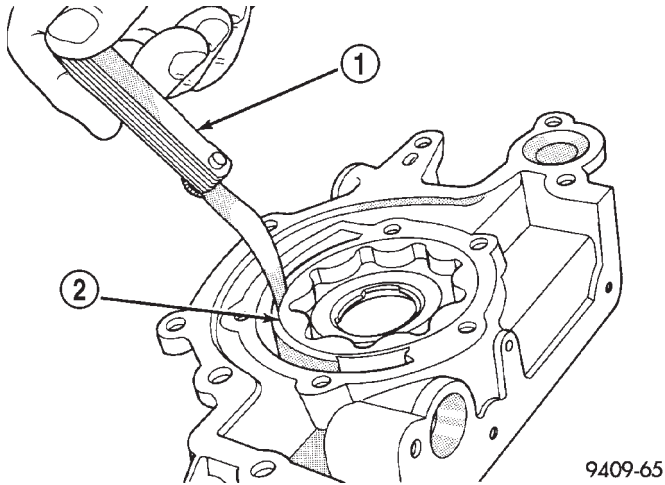

Fig. 131 Measuring Outer Rotor Clearance in Housing
(5) Slide outer rotor into pump housing, press to one side with fingers and measure clearance between rotor and housing (Fig. 131). If measurement is 0.39